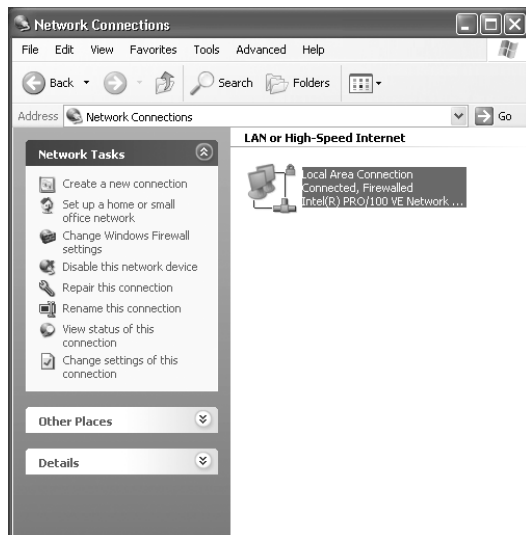

Figure 1
- Click on “Properties” and a window like Figure 1 should appear